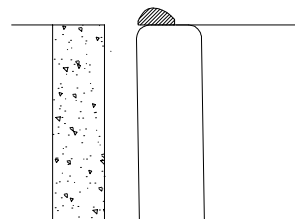

Fig 1.
7. Apply a continuous generous bead of good quality silicone onto the rim around the upper perimeter of the sink (fig1).